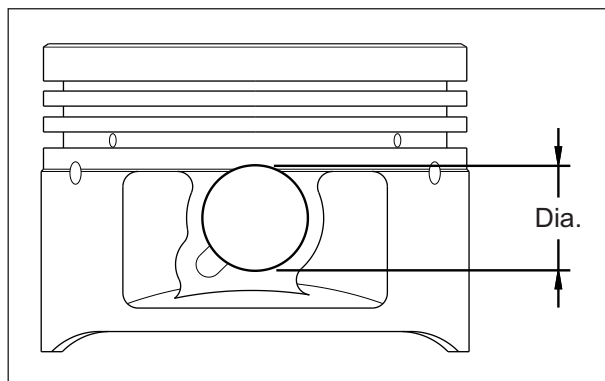

Fig. 3.91
- Check the pin piston bore ID of piston for wear. (Fig. 3.91)